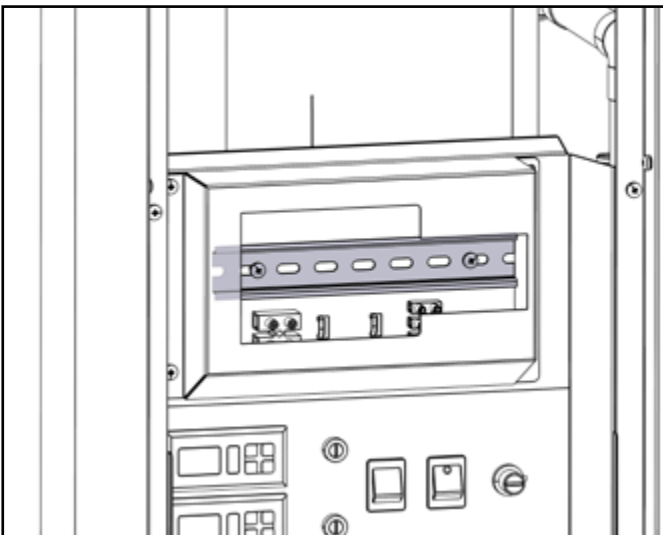

Figure 7-9: Meter housing and DIN rail (with cover removed)
- Cut the retaining cable ties and move the heat meter and heat pump power supply cables to one side to gain access to the DIN rail located behind the meter housing. Refer to Figure 7-9.
- Locate the removable section of pipe in the return to the heat pump. Refer to Figure 7-9.
The required power supply for the heat meter is factory fitted and terminated in a 3-way terminal block, located behind the meter housing when the cover plate is removed. Refer to Figure 7-9. This power supply is protected by a 1A fuse, located on the control panel. Refer to Section 14 (Control Panel).